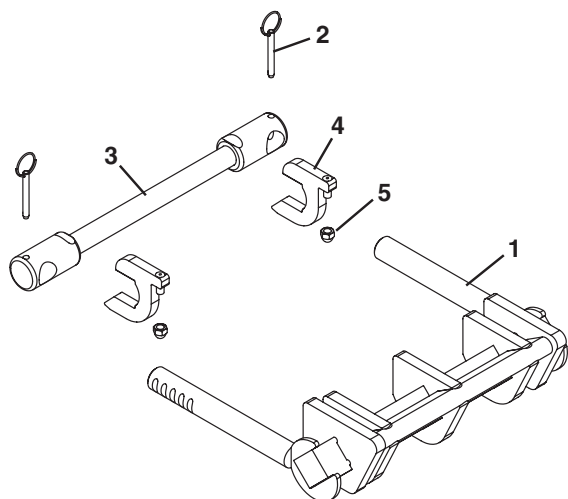

Figure 18
Typical Nose Bar Tip Up Tail Components (**Figure 18**)
*Adjust the acorn nuts (**Figure 18, item 5**) on the key stops (**Figure 18, item 4**) to raise or lower the tip up tail assembly.*